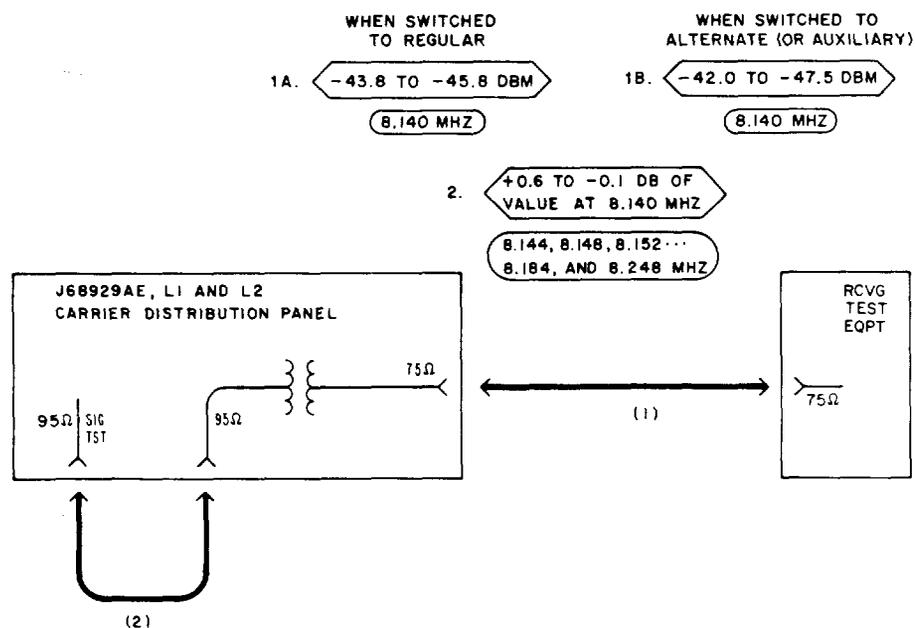

Fig. 5—◆Patching Diagram—Carrier-Frequency Test—Regular Carrier Supply◆
13	Connect the RTE to the 75Ω jack [patch (1), Fig. 5].
14	Connect the 95Ω jack to the SIG TST jack [patch (2), Fig. 5].
22	Remove patch (2), Fig. 5.♦